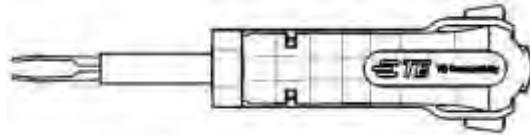

Figure 94
b. Using contact extraction tool (Figure 94), carefully remove contacts from connector.